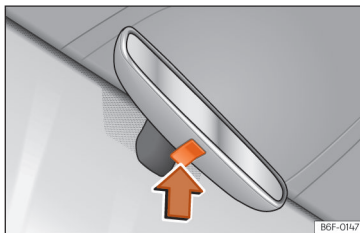

Fig. 111 Manual anti-dazzle function for rear vision mirror
- To darken the rear view mirror, press the mirror button updates >>> **Fig. 111** (arrow).